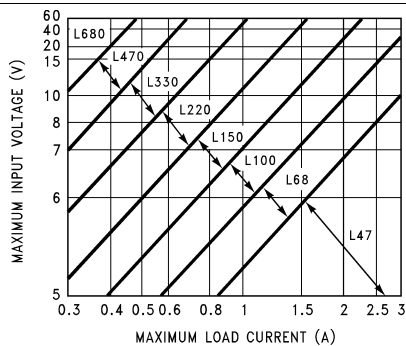
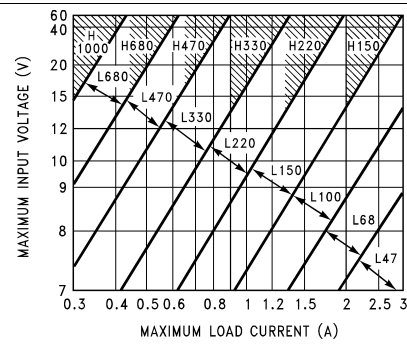
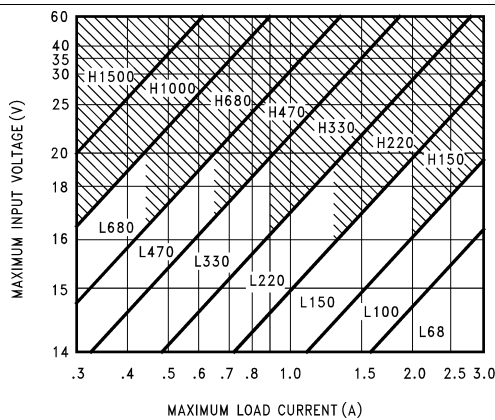
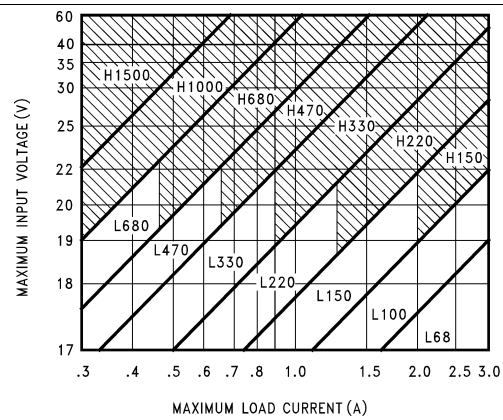

Figure 27. LM2576(HV)-3.3
Figure 28. LM2576(HV)-5.0
Figure 29. LM2576(HV)-12
Figure 30. LM2576(HV)-15
The inductor value selection guides in Figure 27 through Figure 31 are designed for buck regulator designs of the continuous inductor current type. When using inductor values shown in the inductor selection guide, the peak-to-peak inductor ripple current is approximately 20% to 30% of the maximum DC current. With relatively heavy load currents, the circuit operates in the continuous mode (inductor current always flowing), but under light load conditions, the circuit is forced to the discontinuous mode (inductor current falls to zero for a period of time). This discontinuous mode of operation is perfectly acceptable. For light loads (less than approximately 300 mA), it may be desirable to operate the regulator in the discontinuous mode, primarily because of the lower inductor values required for the discontinuous mode.
- Select the correct Inductor value selection guide from Figure 27, Figure 28, Figure 29, or Figure 30. (Output voltages of 3.3 V, 5 V, 12 V or 15 V respectively). For other output voltages, see the design procedure for the adjustable version. Use the selection guide shown in Figure 28.
- Identify the inductor value from the inductor code, and select an appropriate inductor from the table shown in Figure 27. Part numbers are listed for three inductor manufacturers. The inductor chosen must be rated for operation at the LM2576 switching frequency (52 kHz) and for a current rating of $1.15 \times I_{LOAD}$. For additional inductor information, see Inductor Selection. Inductor value required is 100 μ H from the table in Figure 27. Choose AIE 415-0930, Pulse Engineering PE92108, or Renco RL2444.